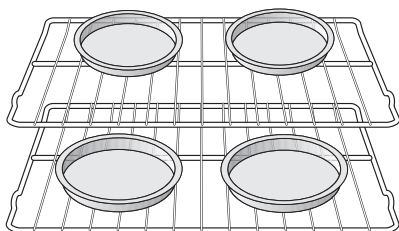

Figure 7: Baking on multiple levels
- For best results when baking cakes or cookies using two oven racks, place pans as shown in Figure 7.